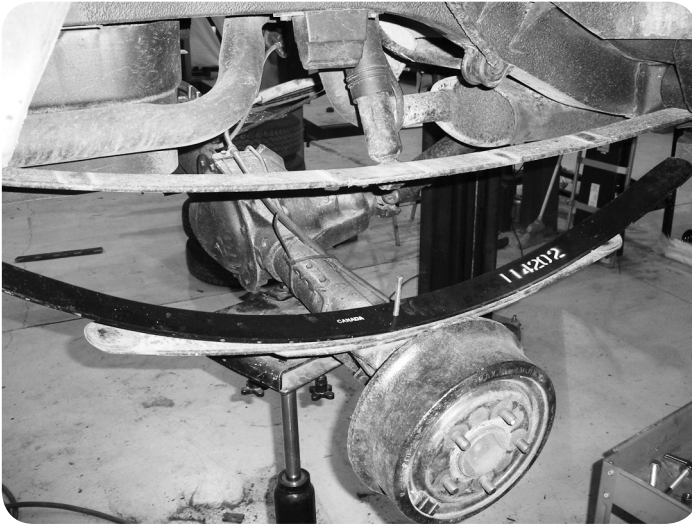

Figure 8
41. Place the provided new leaf in between the 2nd and 3rd leaf in the factory leaf pack. The leaf lengths get shorter as they go from the top leaf in a pyramid shape **Figure 8**. Using the C-clamps on each side of the center pin hole, compress the leaves together while aligning the new center pin through all of leaf center pin holes (from the bottom up). With the pack completely compressed together with the clamps, fasten the center pin with the provided nut. Torque nut to 20 ft-lbs. Cut off any excess center pin. Do not use the center pin to compress the pack together.